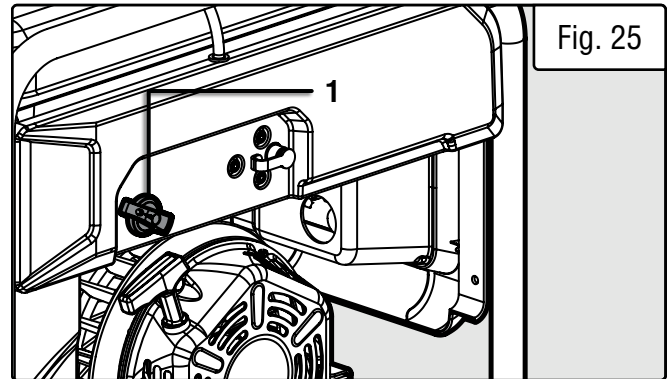

Fig. 25
1. Prepare an approved gasoline-storage container to collect the drained fuel. Place it near the fuel selector switch (Fig. 25 - 1).